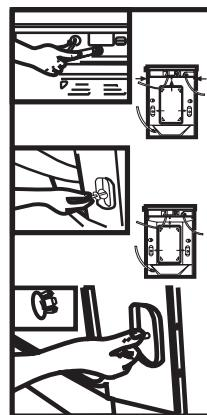

Fig.2
- Remove the packing screws as shown in figure 2.